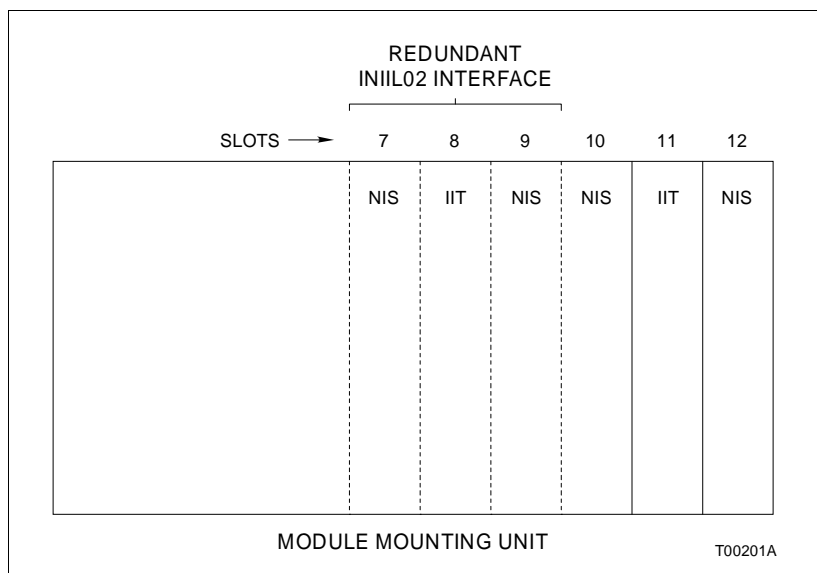

Figure 3-7. Typical INIIL02 Module Slot Assignment in the Module Mounting Unit
1. There must be 3 empty slots (side by side, see Figure 3-7) available in 1 MMU card cage to install 1 interface (6 slots for a redundant interface).